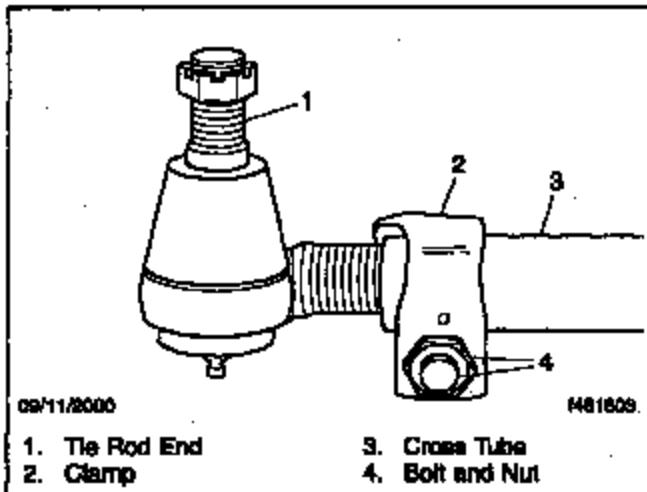

Fig. 8, Cross Tube Clamp
2. Check that the tab on the clamp is firmly seated against the end of the cross tube. See Fig. 8.